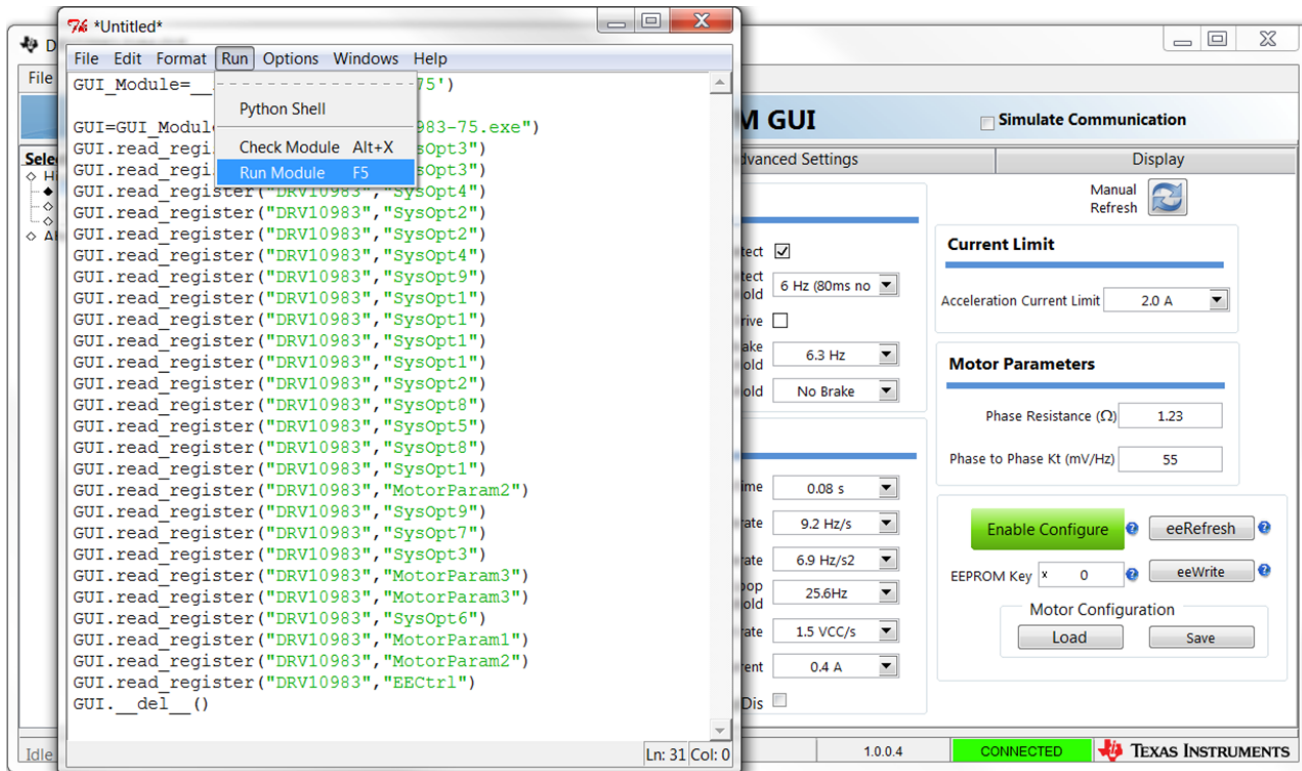

Figure 45. Run Macro
4. Run Script. To run the script, in the IDLE IDE menu bar, go to Run → Run Module as shown in Figure 45.